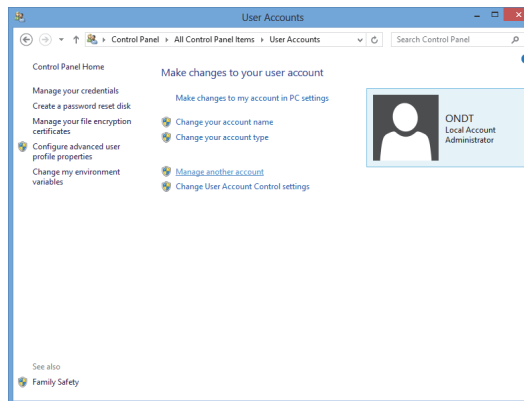

Figure 3-6 The User Accounts window
2. In the **User Accounts** window, click **Manage another account** (see Figure 3-6 on page 55).
7. In the Control Panel's **User Accounts** window, click **Manage another account** (see Figure 3-6 on page 55).